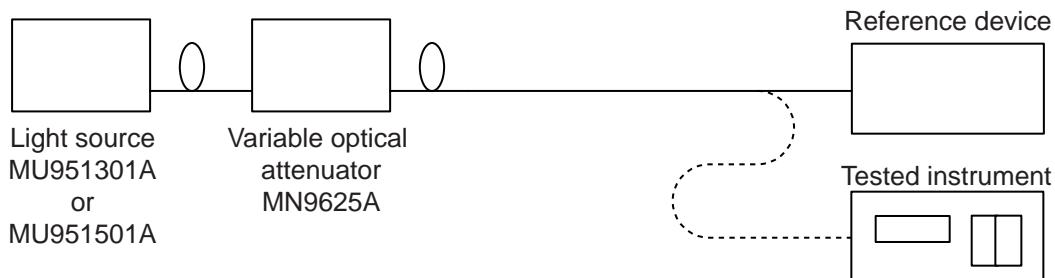

Fig. 5-1
1. Set up a measurement system as shown in Fig. 5-1.